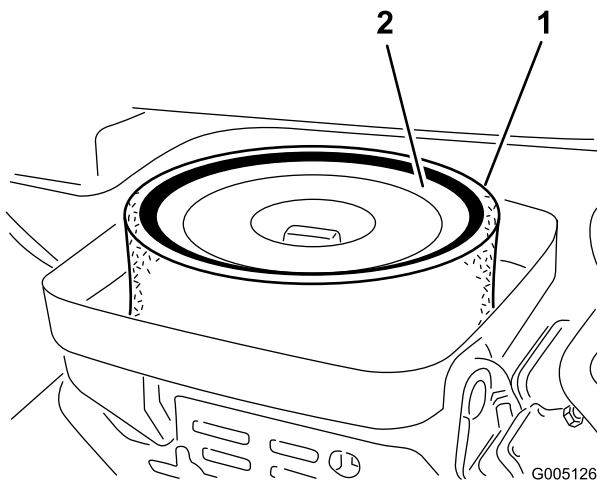

Figure 47
3. If the foam element is dirty, remove it from the paper element (Figure 47). Clean it thoroughly, as follows: